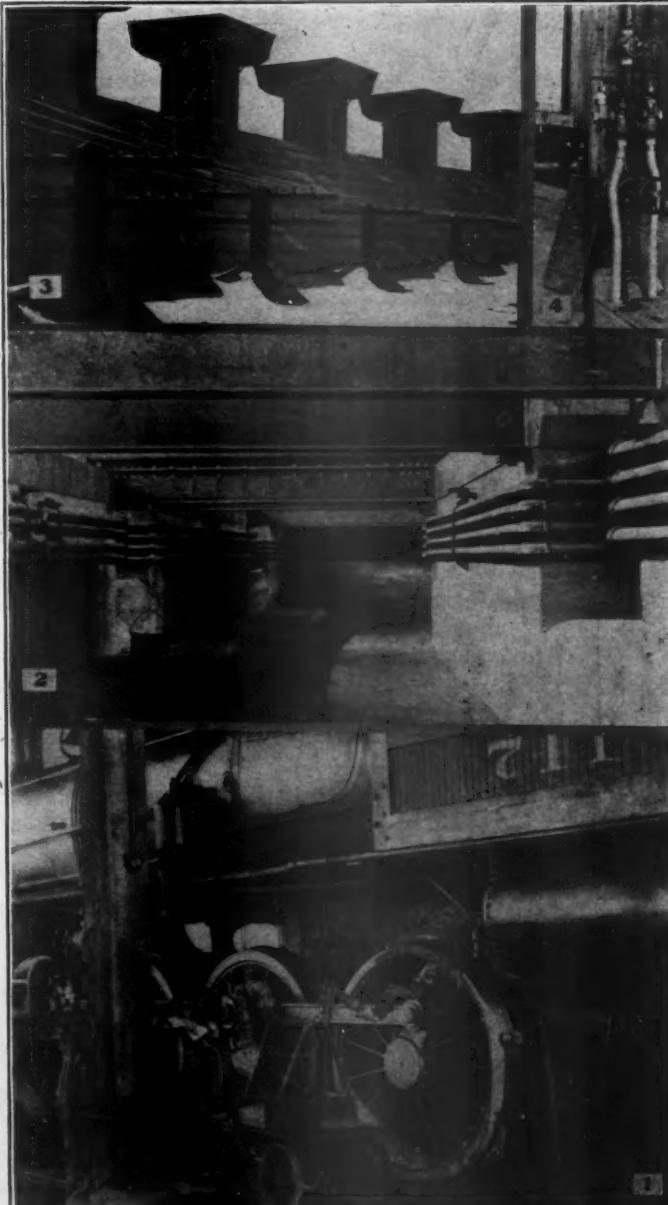
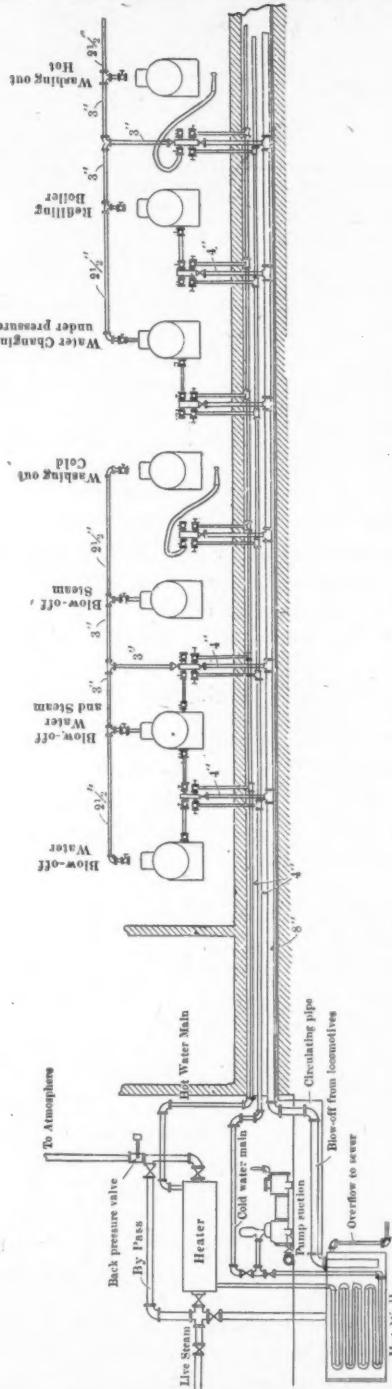

FIG. 9.—(1) Blow off connection in use; (2) One of the drop pits; (3) Wire posts on roof; (4) Post pipe monitors.
FIG. 12.—DIAGRAM SHOWING HOW WASH-OUT AND BOILER FILLING SYSTEM IS USED
**WASHOUT SYSTEM.**—This interesting system includes two sets of heaters in an annex to the power house combined with piping extending through the pipe tunnel entirely around both roundhouses. The tunnel piping consists of an 8-in. blow-off and 4-in. hot and cold water pipes. Connections are brought from the main pipe tunnel to each post in both roundhouses, consisting of a 2-in. cold water pipe, a 2-in. hot water pipe, a 4-in. blow-off and a 1-in. air pipe. At each post is an assembling connection, or monitor, which is shown in Fig. 7 and again in Fig. 9. At each of the posts connections are provided for blowing-off from the water leg and from the dome, and both hot and cold water are available for washing out and filling up. The operation of the system is illustrated by an ideal diagram, Fig. 12, simplified to show the principles. Seven separate conditions are illustrated. The locomotive at the left is connected for blowing down the water only. This passes through the 8-in. pipe to the lower or preliminary heater, the overflow passes to the sewer, and vapor from the surface passes away through the upper or steam heater. The pump shown in this engraving is connected to the cold water suction. It will pump cold water to each post in the roundhouse, or it will pump cold water into the coil in the lower heater from which it passes to the coil in the steam heater and thence into the hot water main to all the posts for washing out or filling boilers. By this arrangement the heat from the blow-off water, or from steam blown from the domes of the locomotives, is utilized to heat water for washing and filling. Live steam may be applied to the upper or closed heater in case it is required.
The second locomotive in Fig. 12 is connected for blowing down the water on both sides of the fire box and blowing off steam from the dome. The third is connected for blowing off steam from the dome only. The fourth for washing out. The fifth for changing water under pressure, in which case the dome connection brings hot water into the boiler. The sixth is connected for refilling with hot water, and the seventh for washing out with hot water.
**LIGHTING.**—The general lighting is by means of enclosed arc lamps at each post near the engine cabs. Sockets for portable connections are provided at each post, Fig. 9—(1), and at each side of each of the fire walls two incandescent lamps are provided and one receptacle for a plug. The wiring inside of the house is all protected in piping. The distributing mains pass around the roof outside of the building to posts over each pit, Fig. 9—(3), thus keeping the wires entirely out of the influence of the gases. Four arc lamps are used for inside lighting and 9 for outside. Electric power is at the present time secured from the Elkhart Electric Company. It is received at 2,200 volts, 7,200 alternations and 60 cycles and is transformed to 110 volts and 2-phase for lighting and 440 volts and 3-phase for the motors. A 20-h.p. motor operates the machine shop. Two 10-h.p. motors drive the two turntables and three motors are used at the coaling station and 20 h.p. for hoisting coal and 5 h.p. for operating the mixer and 3 h.p. for hoisting sand.